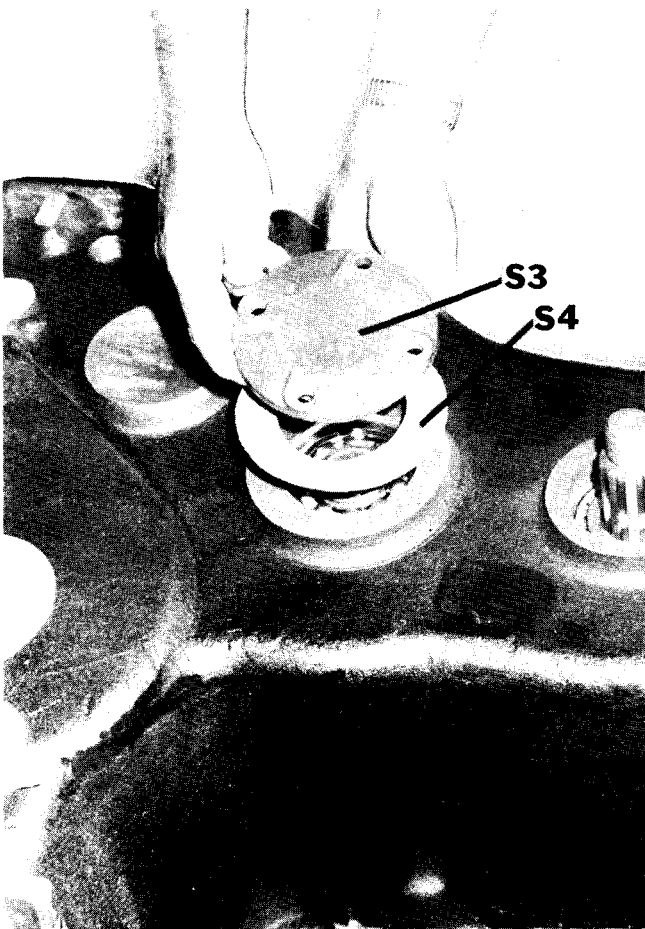

Figure 64
2. Add shims as required to obtain .002-.003 thousands end play. NOTE: Dial indicator should be used to check end play (Figure 64).